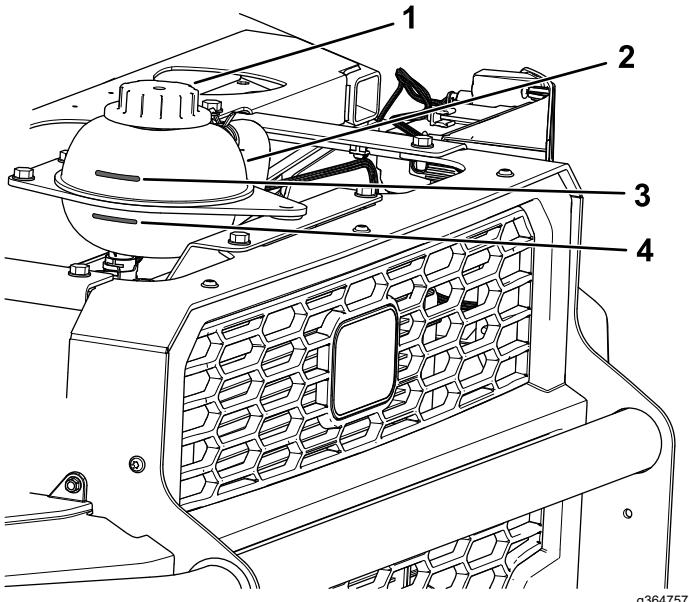

Figure 119
4. Check the coolant level in the coolant tank (Figure 119).